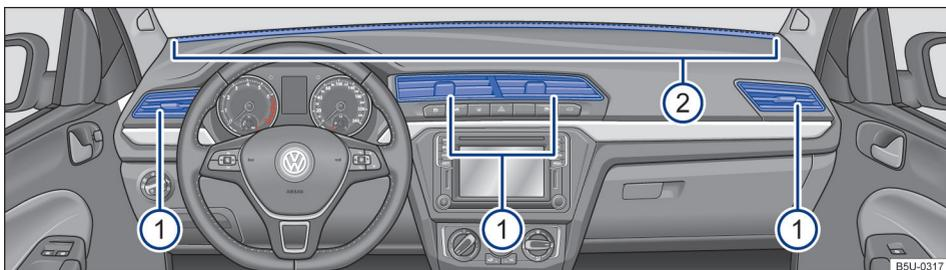

Fig. 77 On the dashboard: vents.
- Press the upper part to open the vents ①.
Other non adjustable vents can be found on the dash panel → Fig. 77 ② and in the footwell areas.